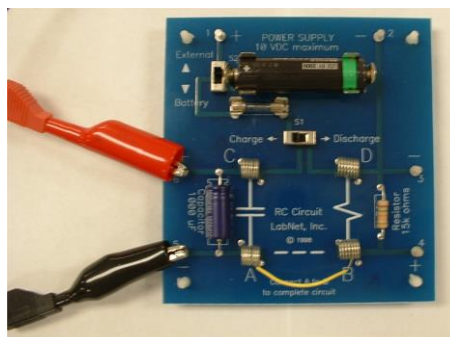

Figure 10
When you have successfully connected the circuit, it should look similar to Figure 10 below.
5. Before you begin charging up the capacitor, make sure you start with the capacitor *completely discharged*. To do this, make sure the Charge/Discharge switch is set to Discharge, and move the hook-up wire to “short out” the capacitor. After a few seconds, reconnect the hook-up wire between terminals A to B so that the circuit again looks as shown in Figure 10.
12. Referring to Eq. (10) from the *Theory* section, calculate your experimentally determined RC time constant τ_{exp} and record it in seconds in the **Charging** column in Trial 1 of Table A.